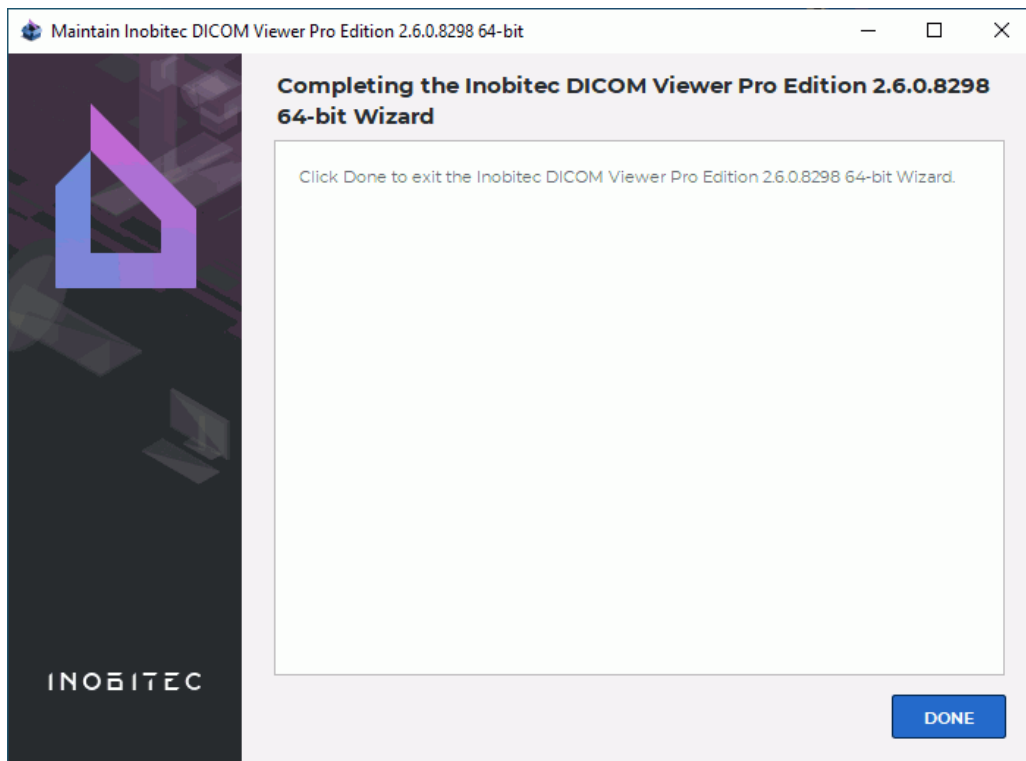

Figure 13: Uninstallation complete
4. In the confirmation window click the **DONE** button (Fig. 13).